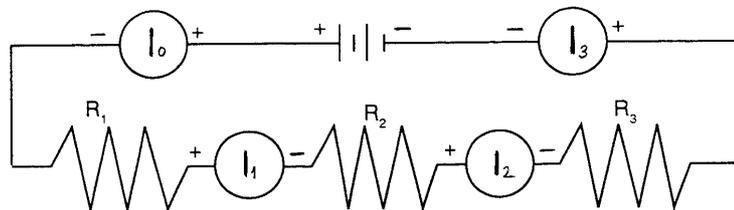

Figure 14.17: Current Measurements in Series Circuit
1. Connect the three resistors into the series circuit (Figure 14.17). Change the leads in your Multimeter, so that it can be used to measure current. Be careful to observe the polarity of the leads (red is +, black is -). Move the Multimeter to the positions, indicated in the figure. Record your readings in Table 14.8 each time interrupting the circuit, and carefully measuring the current.